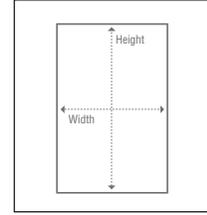

fig. 1
- Check the rough opening dimensions against the units actual frame width and height. Need 1/4" for each side and 1/2" for the head. (fig. 1)